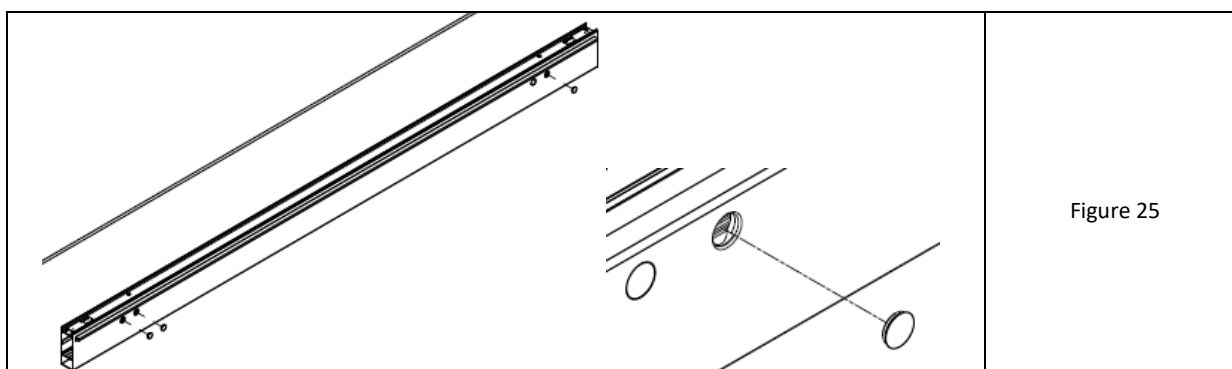

Figure 25
4. Place the wall beam on the anchors and fasten it with the nut washer from the anchor. Tightening torque according to the anchor manufacturer's instructions (fig. 25).
5. Cover the holes for the anchors in the beam with aluminium plugs set on silicone (fig. 25-right).